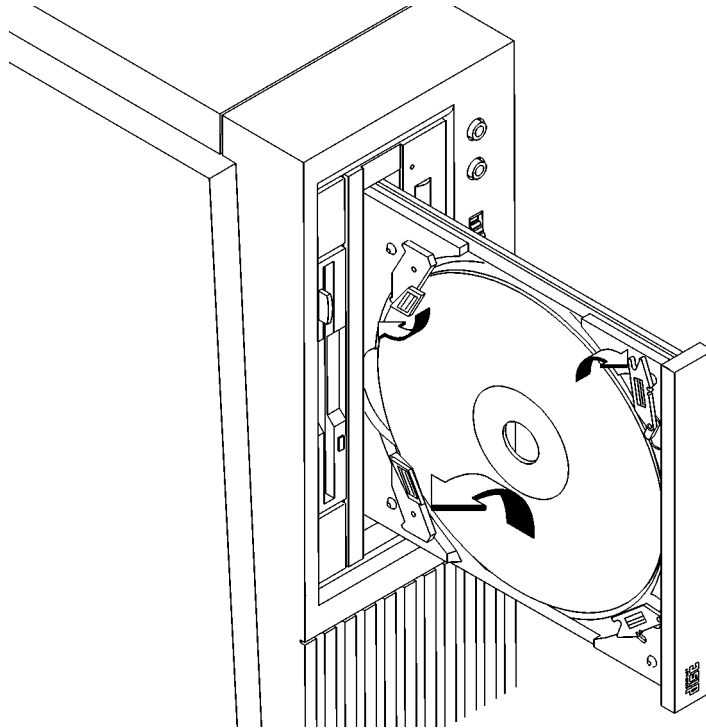

Figure 14
- 2 Press down gently against the spring tension of disc holders A and B and swing the top of the disc away from disc holders C and D as shown in Figure 14.